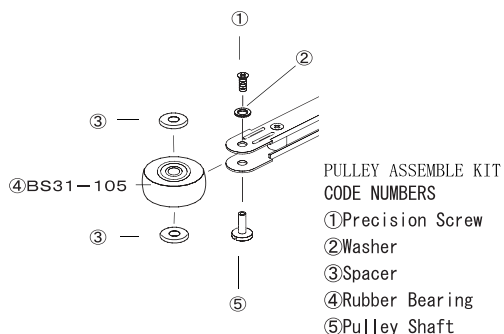

Fig. 12
Finally, insert the pulley shaft from the bottom and tighten the screw ① with the washer ②. (Fig.12)